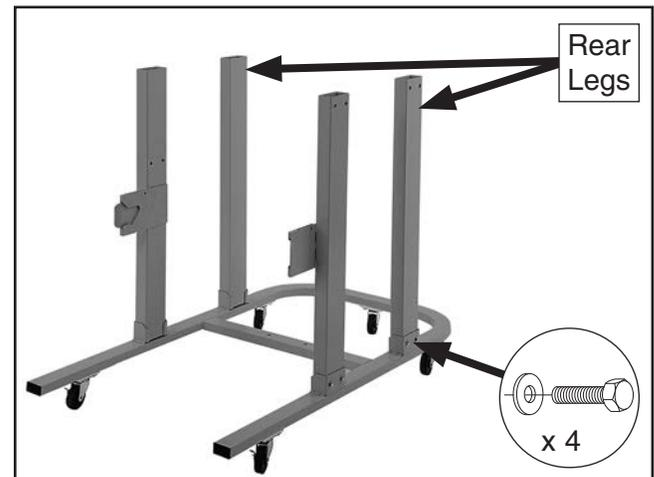

Figure 12. Rear legs attached to base stand.
5. Attach (2) rear legs (36" long) to base stand with (2) $\frac{5}{16}$ "-18 x $\frac{3}{4}$ " hex bolts and (2) $\frac{5}{16}$ " fender washers per leg (see **Figure 12**). Finger-tighten for now.